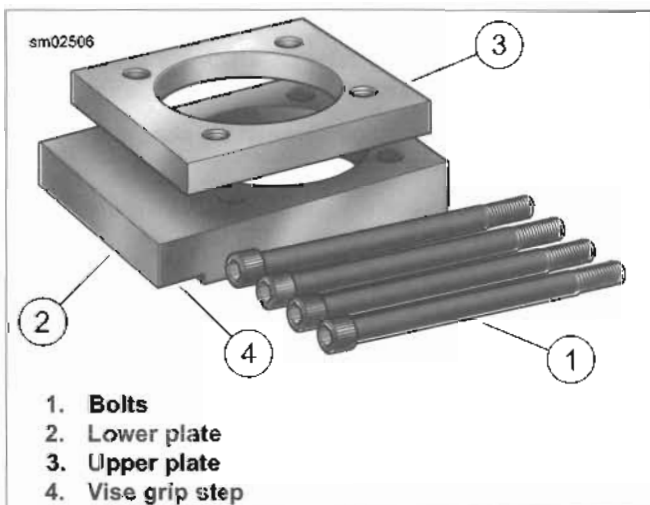

Figure 3-57. Cylinder Torque Plates
2. See Figure 3-57. Check the machined surfaces for flatness using a feeler gauge and CYLINDER TORQUE PLATES (Part No. HD-42324-A):
- a. Lay gasket side of the upper torque plate (3) flat against the head gasket surface of the cylinder.
- e. Lay the seal side of the lower torque plate (2) flat against the O-ring seal surface and check flatness using a feeler gauge.